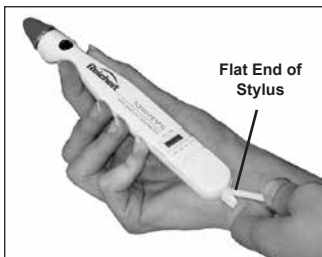

Figure 2 Open Battery Compartment
1. Open the battery compartment by gently inserting the stylus blade in the end slot. After insertion, slowly push the stylus forward and pry the cover up to remove. Refer to Figure 2.